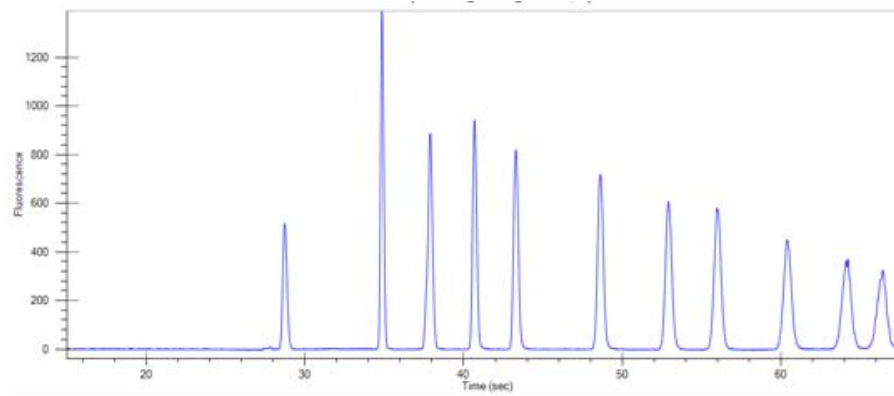

Figure 23. Delayed migration
- 2 The DNA NGS 3K Marker is contaminated and the Upper Marker is degraded. The Lower Marker is a dye molecule and is less sensitive to contamination. **Note:** It may be necessary to turn analysis off to obtain proper alignment of data. With analysis on, the problem may appear similar to delayed migration (Figure 23).